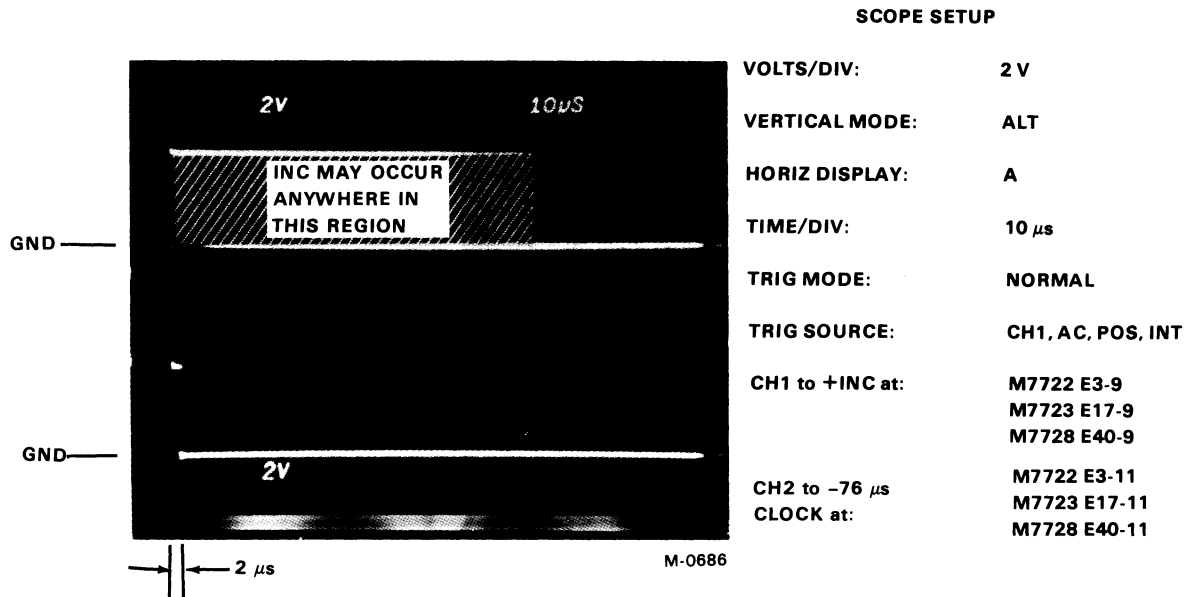

Figure 6-23 +INC and 76 μ s Waveforms
6. Check the waveforms at the test points as indicated in Figures 6-23 through 6-28.